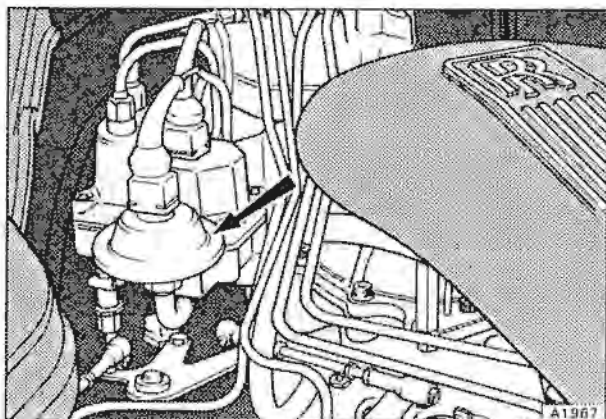

Fig. B2-16 Acceleration enrichment switch
**Acceleration enrichment switch** (see fig. B2-16)